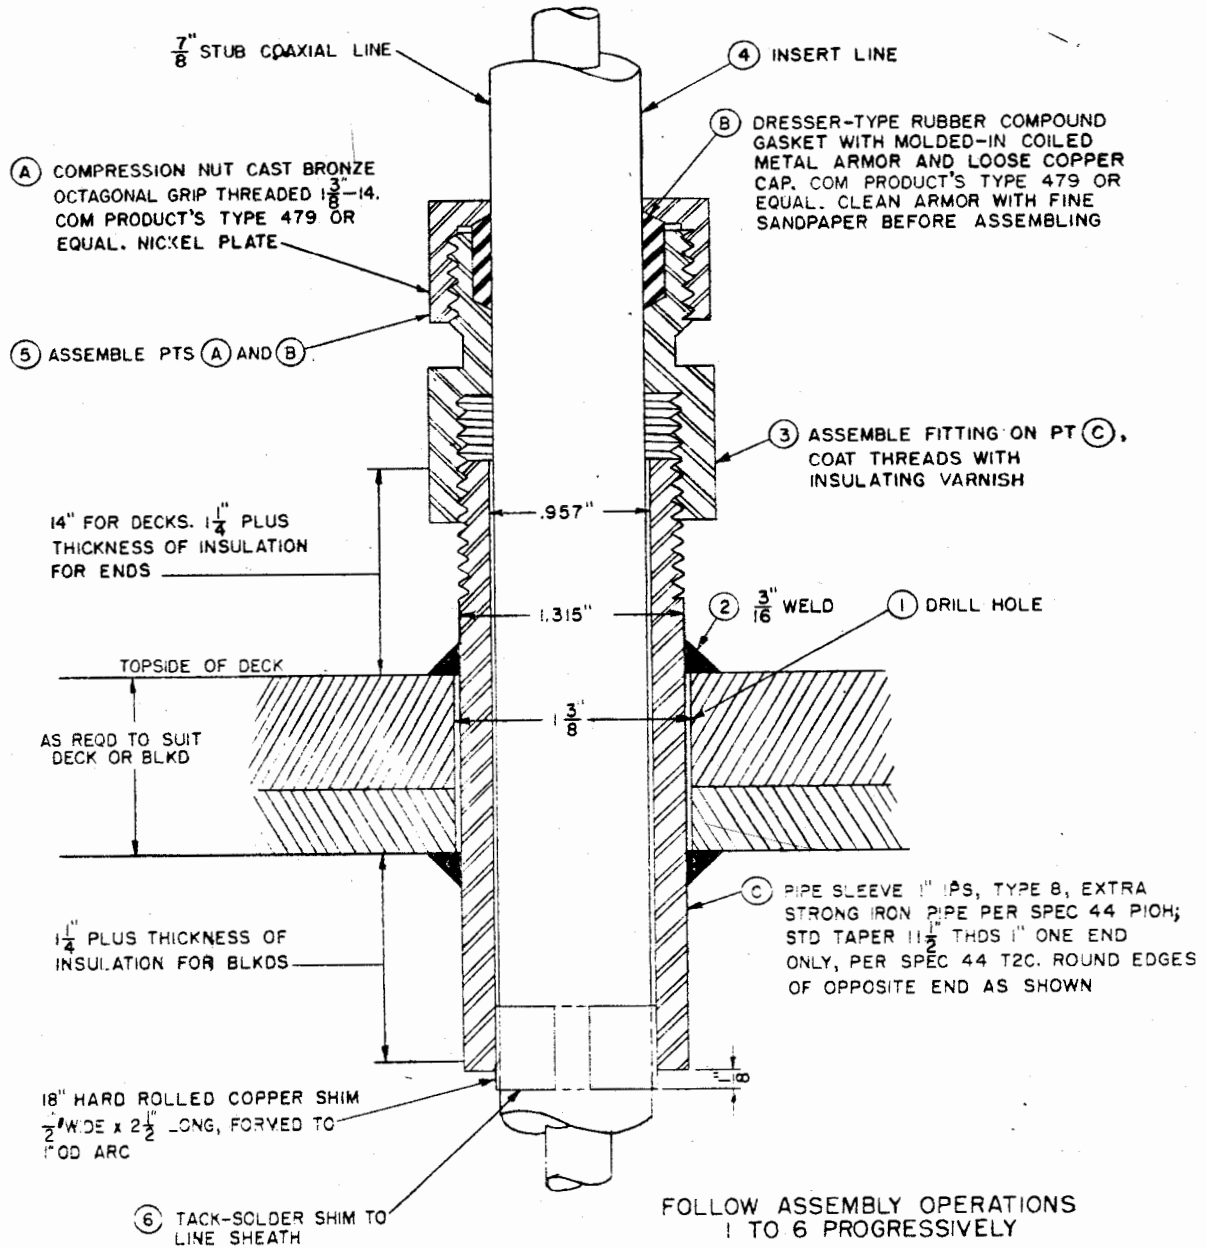

Figure 11-95. Method of Passing Line Through Decks and Bulkheads.
f. When the line is passed through a deck or bulkhead, the method shown in Figure 11-95 will insure a watertight job.